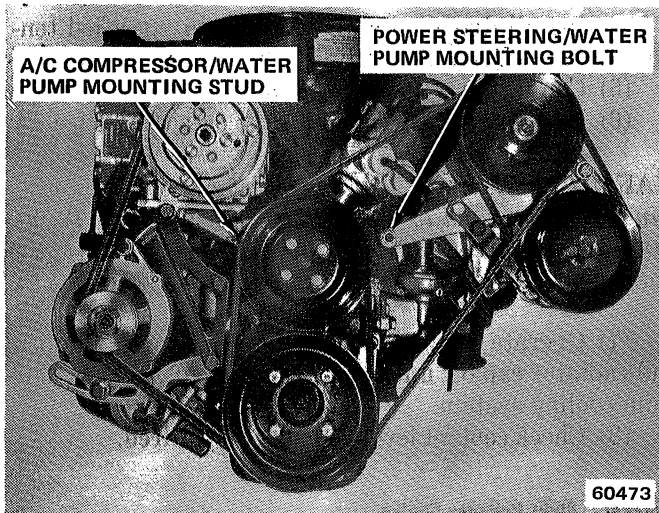

Fig. 1C-4 Water Pump Removal—Eight-Cylinder Engine with A/C
(1) Disconnect battery negative cable.
(2) Drain radiator and disconnect upper radiator hose at radiator.
(3) Loosen all drive belts.
(4) If vehicle is equipped with fan shroud, separate shroud from radiator.
(5) Install one radiator/shroud screw to retain radiator.
(6) Remove fan and hub from water pump. Remove fan and shroud, if equipped, from engine compartment.
(7) If vehicle is equipped with air conditioning, install double nut on air conditioning compressor bracket-to-water pump stud and remove stud (fig. 1C-4).
(8) Remove alternator and mount bracket assembly and place aside. Do not disconnect wires.
(9) If equipped with power steering, remove two nuts that attach power steering pump to rear half of pump mounting bracket.
(10) Remove two screws that attach front half of bracket to rear half.
(11) Remove remaining upper screw from inner air pump support brace, loosen lower bolt and drop brace away from power steering front bracket (fig. 1C-4).
(12) Remove front half of power steering bracket from water pump mounting stud.
(13) Disconnect heater hose, bypass hose and lower radiator hose at water pump.
(14) Remove water pump and gasket from timing case cover.
(15) Clean all gasket material from gasket mating surface of timing case cover.